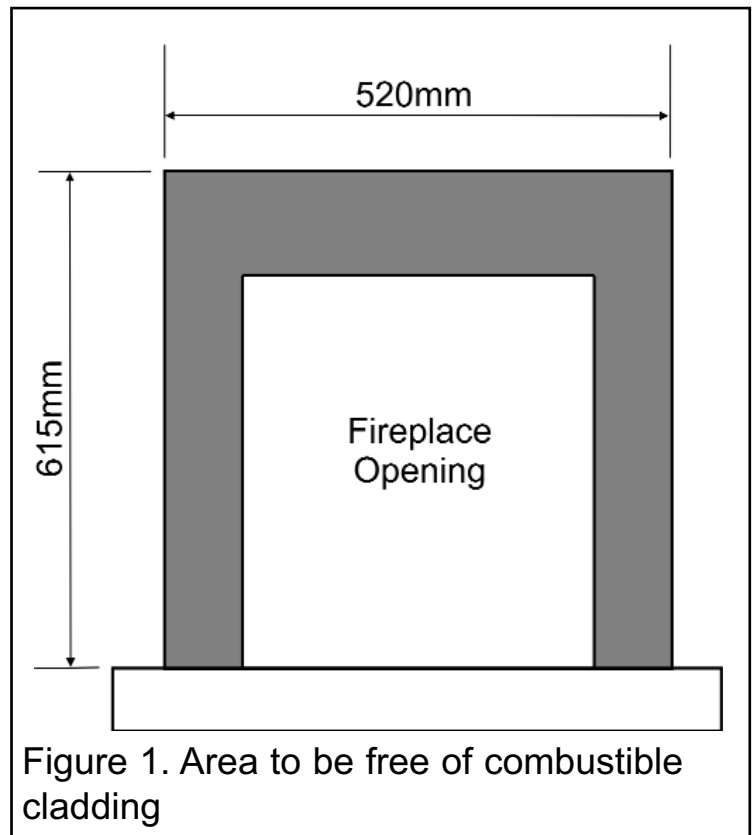

Figure 1. Area to be free of combustible cladding
4.6.4 If the fire is to be fitted against a wall with combustible cladding, the cladding must be removed from the area shown in figure 1.